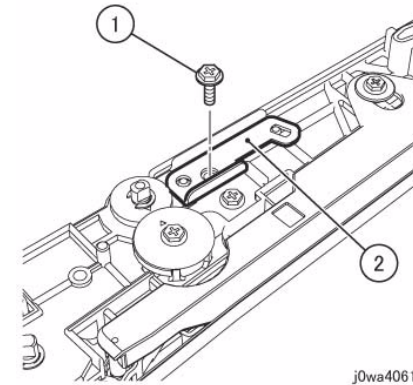

Figure 1 Remove the Tension Plate
6. Remove the Tension Plate. (Figure 1)